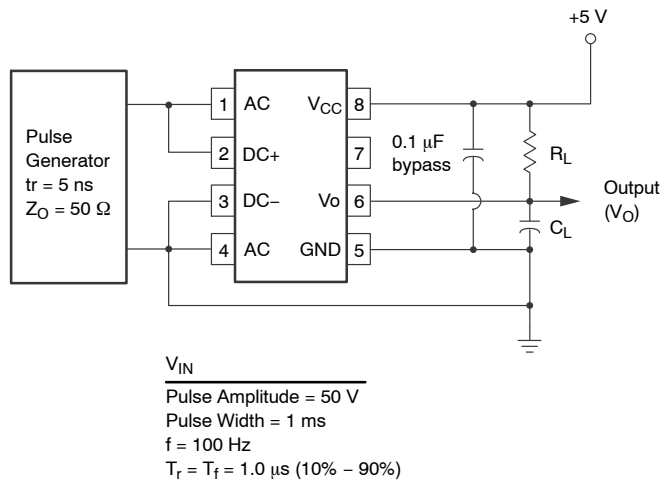

Figure 10. Switching Test Circuit
7. T_{PHL} propagation delay is measured from the 2.5 V level of the leading edge of a 5.0 V input pulse (1 μs rise time) to the 1.5 V level on the leading edge of the output pulse. T_{PLH} propagation delay is measured on the trailing edges of the input and output pulse. (Refer to Fig. 10)